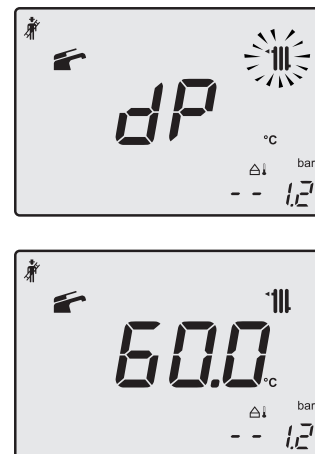

Fig. 9.24
- Press further key 16 to vary again the output in chimney sweep mode: when the LCD display displays the letters **dP** that alternate with the heating water temperature value (e.g. **60**), the "chimney sweep function" is at maximum output in domestic hot water mode" (Fig. 9.24).